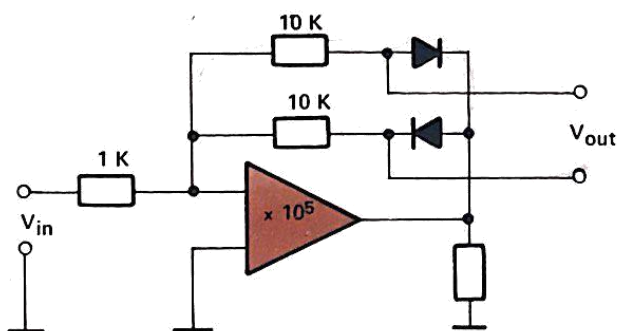

Fig. 4.8.
Q.4.1. Figure 4.8 shows a full-wave rectifier circuit. The diodes have a forward voltage drop of 0.5 V; they will therefore start to conduct at an input voltage  $V_{in}$  of: